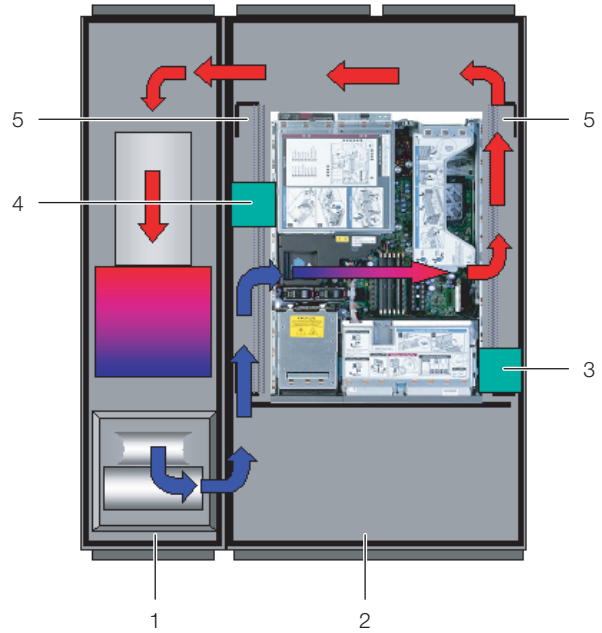

Fig. 23: Placement of foam strips for devices with sideways air throughput (top view) – LCP Rack
- If several devices which require sideways air throughput are included, cut out several pieces of the foam strip, as is appropriate, so that, ultimately, there is a cut-out in the foam to the left or right at the height of each such device in the server rack. Ensure that there are no gaps on the hot air side of the device (fig. 23, item 3).
- Attach the foam strips to the cold air side of the devices set back towards the rear (fig. 23, item 4), making sure that all fans built into the devices can draw air and that none of them are blocked.
The foam strips can be attached between the front and rear supports of the server rack along the entire depth of the devices with sideways air throughput (fig. 23, item 5).